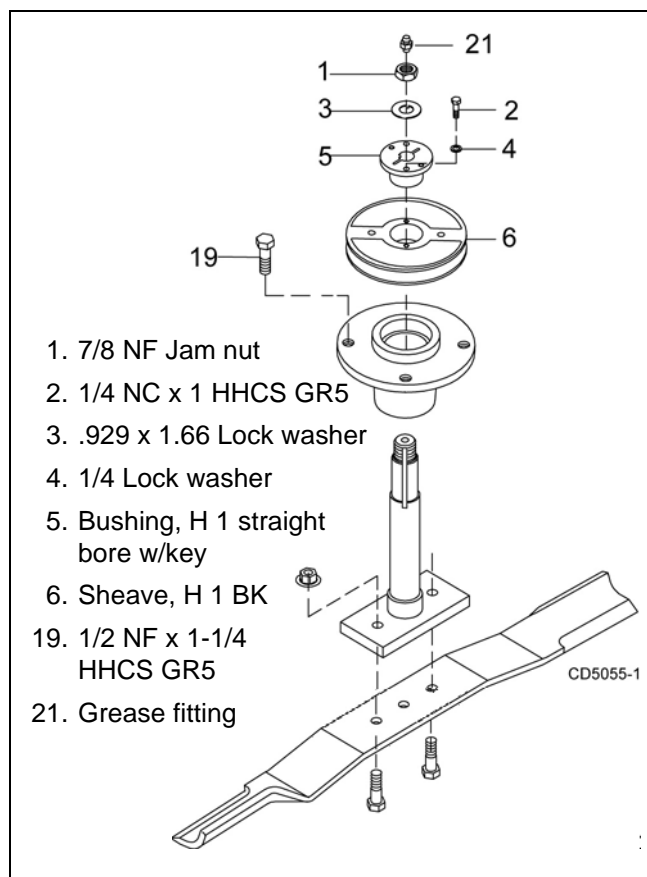

Figure 16. Sheave and Blade Assembly
3. Remove jam nut (1) and washer (3) from top of spindle shaft, Figure 16.
4. Disassemble split taper bushing (5) (located on top of pulley) by removing the two bolts (2) and washers (4).
5. Insert bolts (2) into the threaded holes of bushing flange.
7. Remove pulley (6).
8. Remove bolts (19) that attach spindle to mower frame and remove spindle.
9. Remove grease fitting (21) from top of shaft.